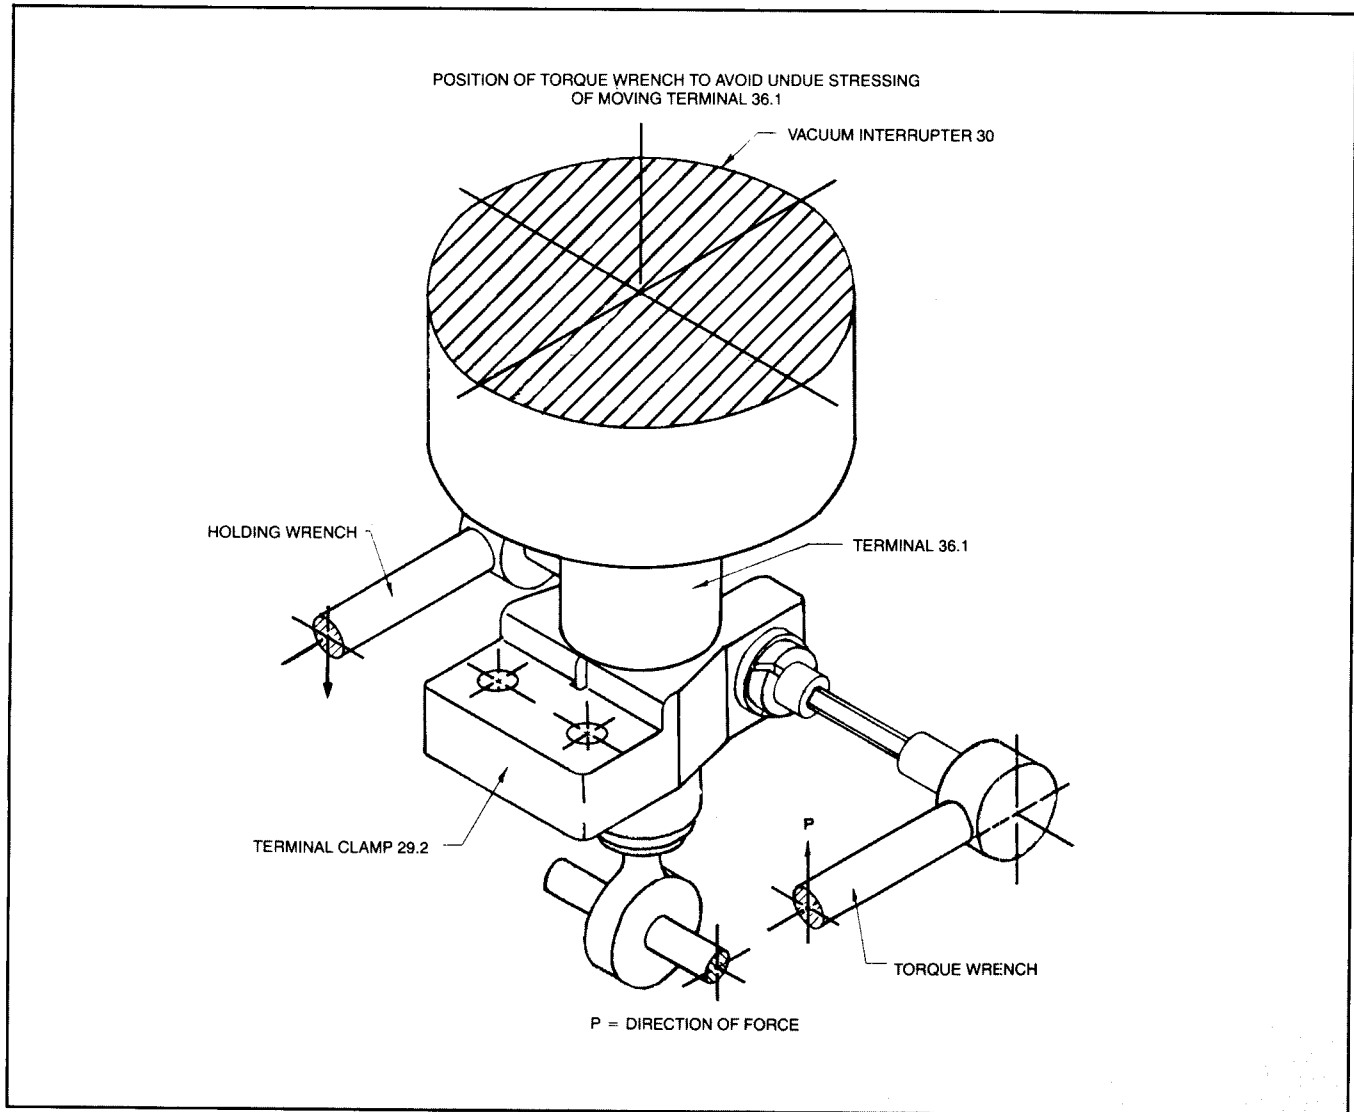

Figure 23. Illustration Showing Required Technique For Fastening Terminal Clamp Hardware
- 1.2 Loosen the lateral bolt(s) on terminal clamp, 29.2. Refer to Figure 23 and employ the illustrated procedure to loosen clamp hardware. (8mm hex allen and 17mm socket)
- 2.7 Elevate terminal clamp, 29.2, against the locking ring on the movable terminal of the vacuum tube, 36.1 and position the interrupter 30, so that its groove faces the connecting surface of flexible strap 29.1. Refer to Figure 23 and employ technique illustrated to fasten terminal